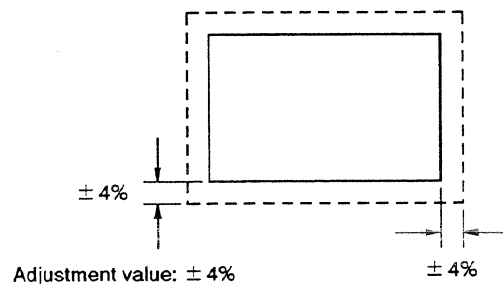

Fig. 7-40.
Specified Value	See Fig. 7-40.
- 1) Turn the centering adjustment rings to provide an image with even right, left, upper and lower margins. (See Fig. 7-40.)